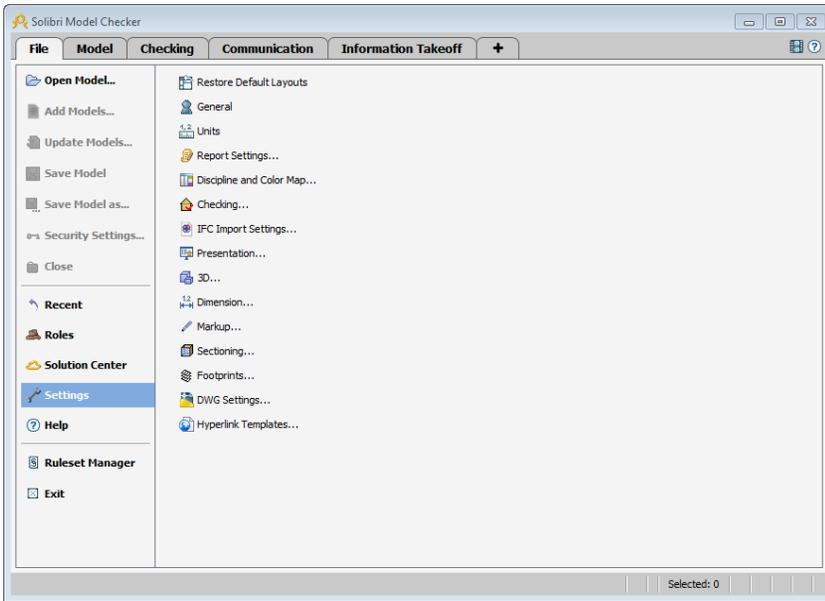

Figure 4 File Layout and “Settings”
- 2) Next you check your settings by Selecting **Settings** from the menu on the left (see Figure 4).